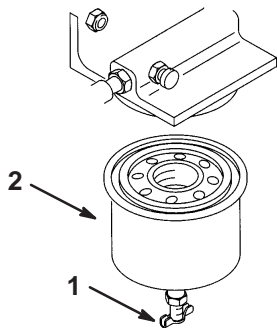

Figure 30
4. Open the drain valve (Fig. 30) and drain the fuel from the fuel filter into a suitable container and dispose of it properly.
5. Remove the fuel filter with a filter wrench (Fig. 30).